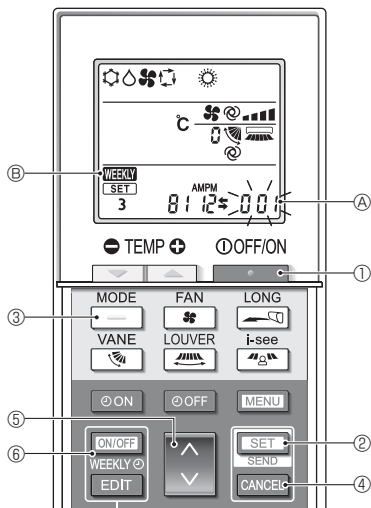

Fig. 4-9
#### 4.9.8. How to disable Auto mode operation (Fig. 4-9)
1. Press the **STOP** button ① to stop the air conditioner.
- If the weekly timer is enabled, press the **ON/OFF WEEKLY** button ⑤ to disable the timer. (**WEEKLY** ⑩ disappears.)
2. Press the **SET** button ② for 5 seconds.
- The unit enters the function setting mode. (The group model setting number ④ blinks.)
3. Press the **DOWN** button ④.
4. Completing the settings (Fig. 4-9)
- Press the **SET** button ② for 5 seconds.